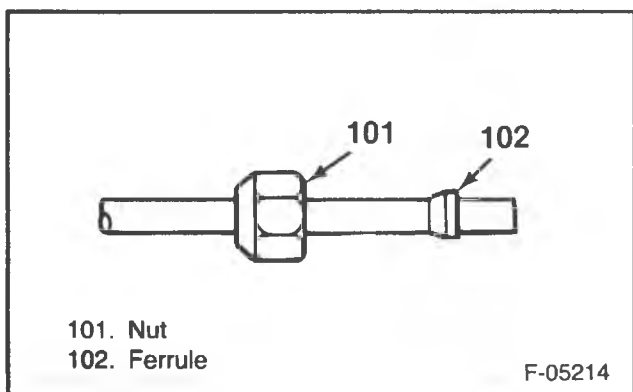

Figure 27 — In-Line Filter Installation
If there is a compressor failure, remove the old compressor and install a new compressor with an in-line filter (figure 27).
7. Place the nut over the condenser end of the liquid line (figure 27).
8. Install the ferrule with the small end toward the nut (figure 27).
10. Place the nut over the orifice end of the liquid line (figure 27).
11. Install the ferrule with the small end toward the nut (figure 27).